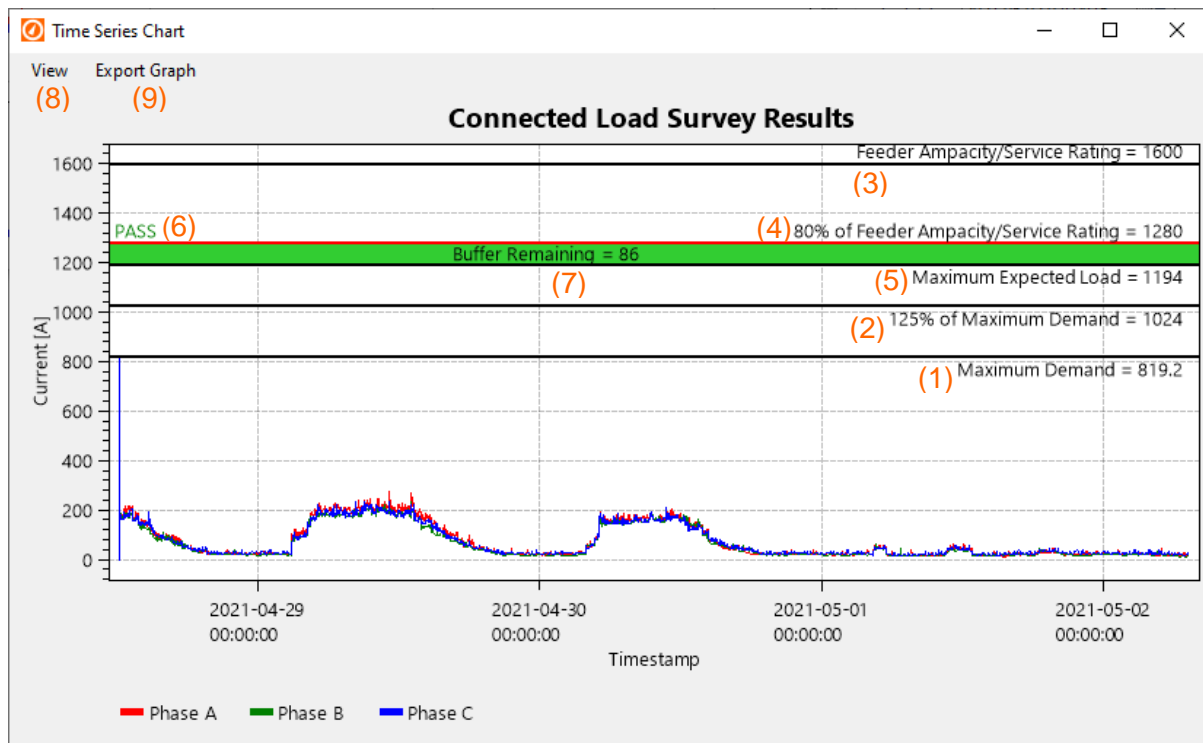

Figure 2.12.10.3.3.1
(1): This black line represents the 'Maximum Demand' of the selected phases. When multiple phases have been selected for NEC220.87 load analysis, since it is only one line the maximum demand will be based on the highest (worse case) maximum demand out of all the three phases. In figure 2.12.10.3.3.1, note how the maximum demand is equal to the magnitude of the current spike that occurs on Phase C at the beginning of the datafile.
(2): This black line represents 125% of the 'Maximum Demand' described in point (1).